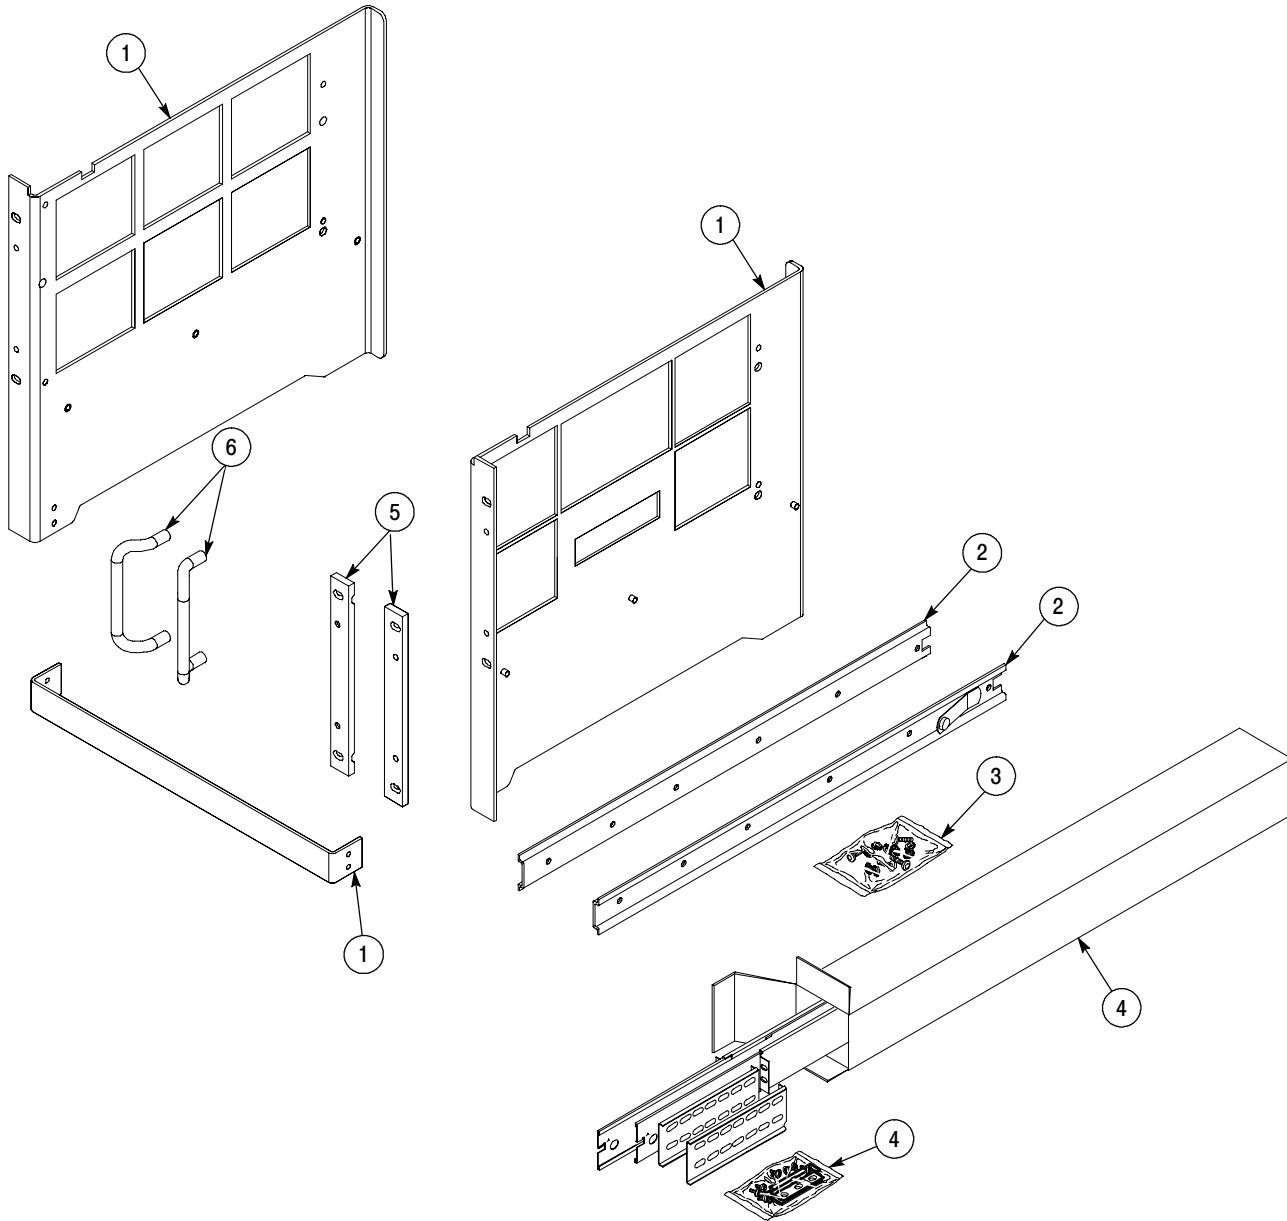
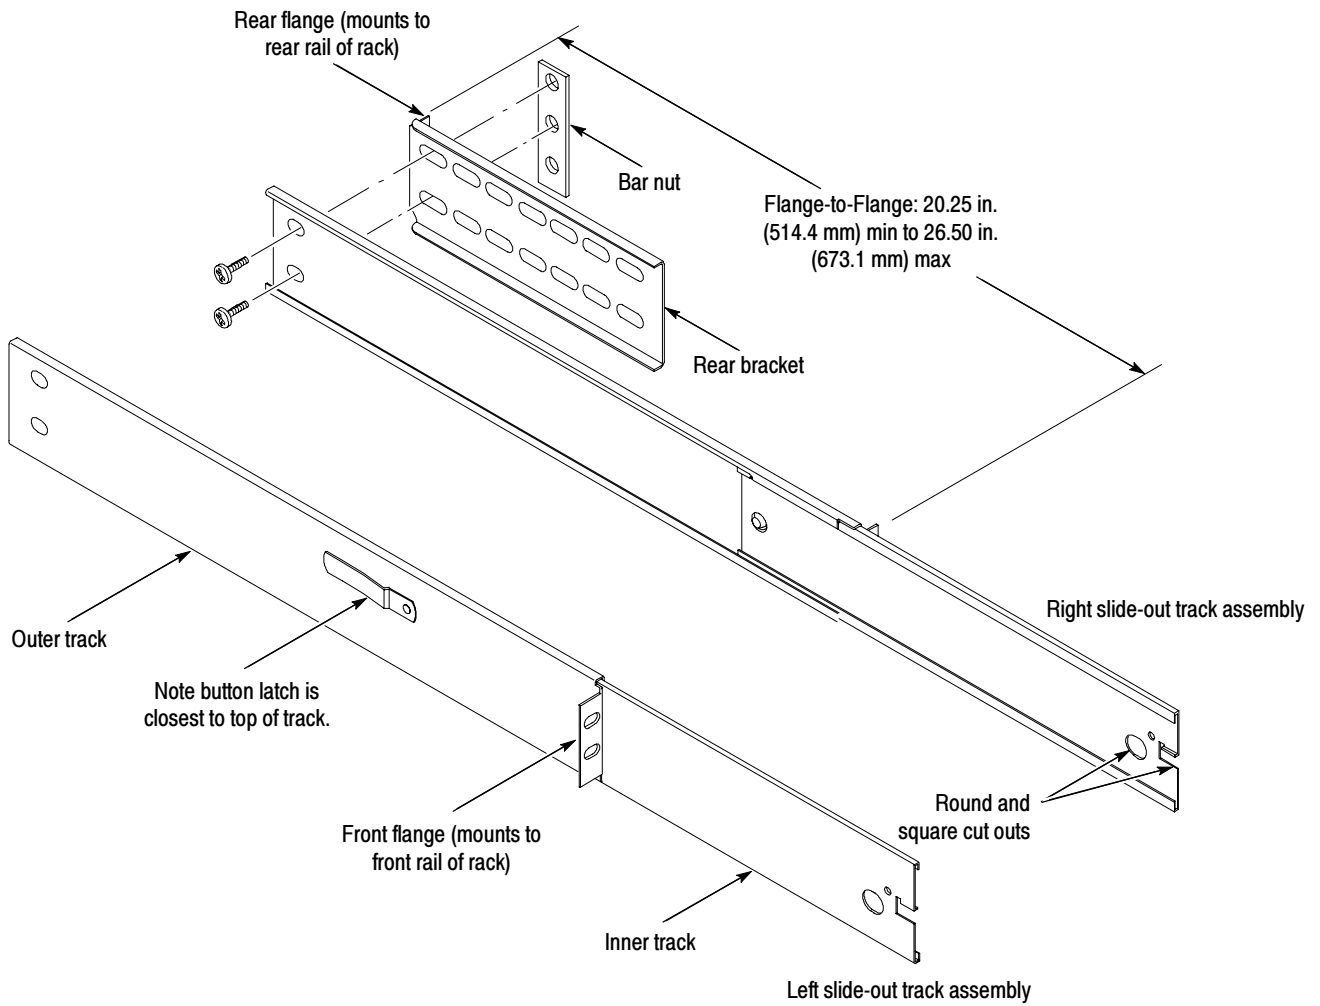

Figure 1: Rackmount kit parts
Figure 7: Assembly of slide-out tracks
This table contains a list of the parts shown in Figure 1 on page 2.
NOTE. *The included slide-out track assemblies (Figure 1 on page 2) come partially assembled to simplify their installation and to avoid accidental swapping of their inner tracks. (See WARNING on the previous page.) If tracks are not partially assembled, use Figure 7 on page 13 to match left and right slides. (Note that when the left and right tracks are oriented as shown, the round cutout is below the square cutout at the end of both inner tracks.)*
- c. Align the rear bracket to the right slide-out track as shown in Figure 7. Note the rear bracket has multiple pairs of mount-through holes. When aligning the bracket and track, be sure to select a pair of holes that mount the rear bracket so that the flange-to-flange distance (see figure) matches the front-rail to rear rail spacing of the rackmount rack just measured.